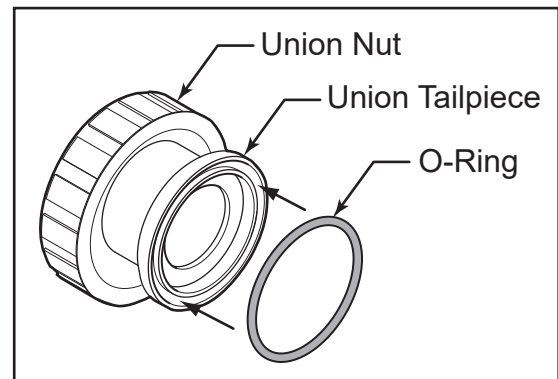

Figure 4. O-ring Placement
- Place the o-rings on the face of the union tail pieces, where the face of the union will connect to the filter bulkheads, see Figure 4.